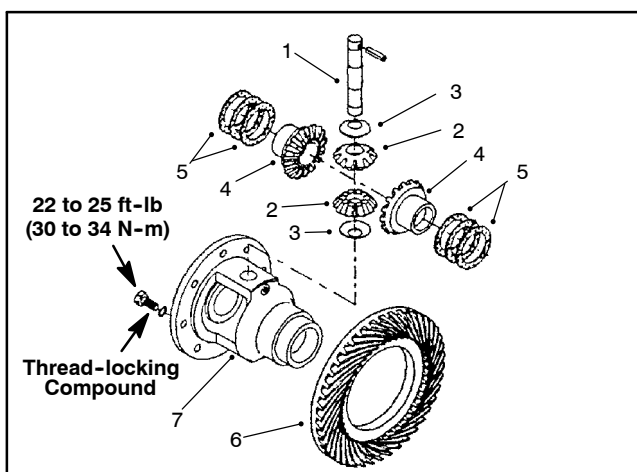

Figure 32
7. Remove the differential pinion shaft, pinion gears, and pinion washers. Remove the differential side gears and side gear shims. Remove the ring gear only if it will be replaced (Fig. 32).